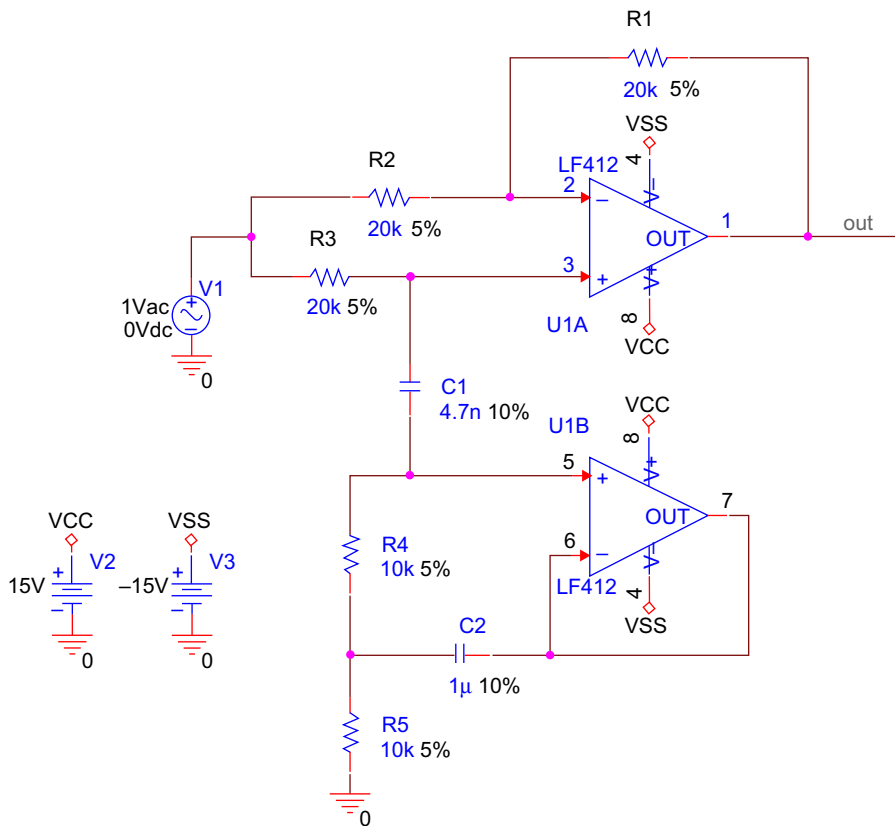

FIGURE 11.4
1. Draw the circuit in Figure 11.4. The LF412 dual opamp is from the opamp library, or you can use any opamps.